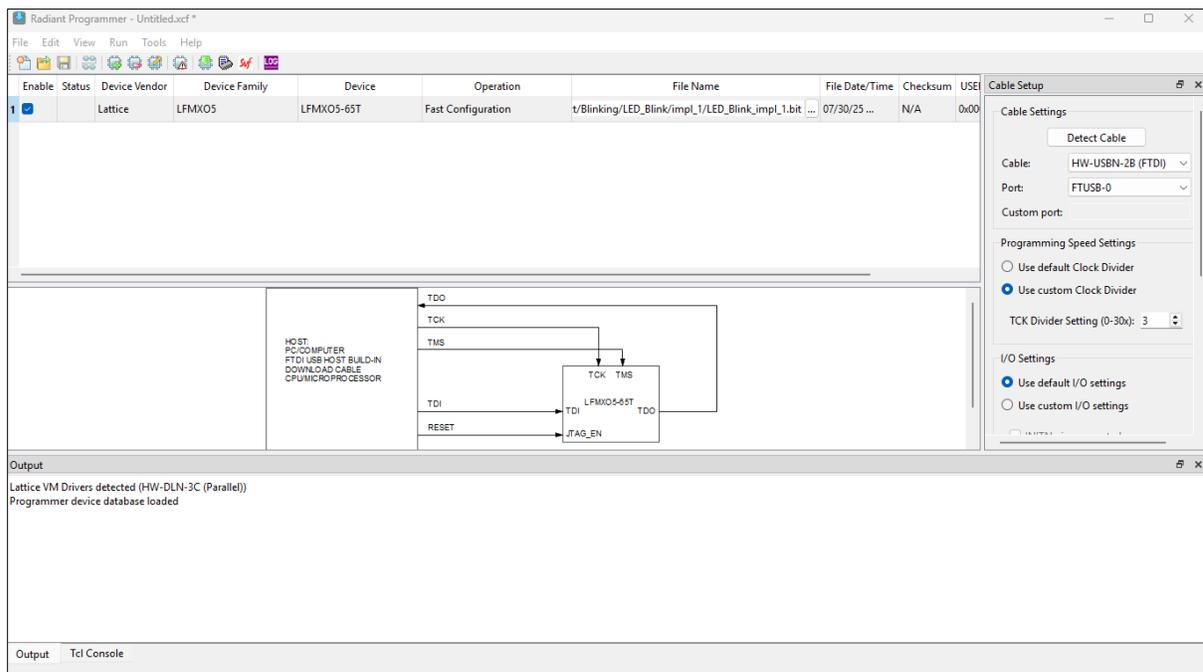

Figure 4.3. Open Radiant Programmer
3. The Radiant Programmer interface opens, as shown in Figure 4.3. Select FTUSB-0 for **Port** in the **Cable Setup** area.